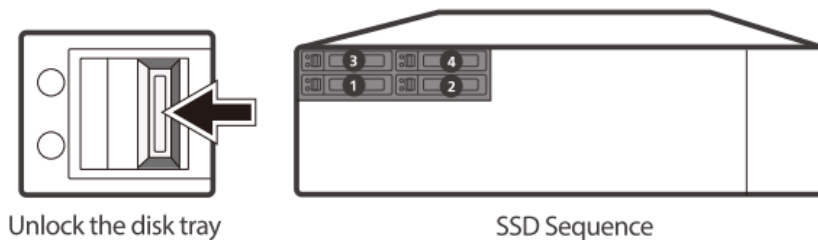

Figure 3-6: Release Drive Tray (Rear Panel)
Step 1: Unlock the latch to release the drive tray as shown in **Figure 3-6**.
Step 5: Repeat **Step 1** to **Step 4** to install the remaining drives. Please follow the HDD Sequence shown **Figure 3-6**.